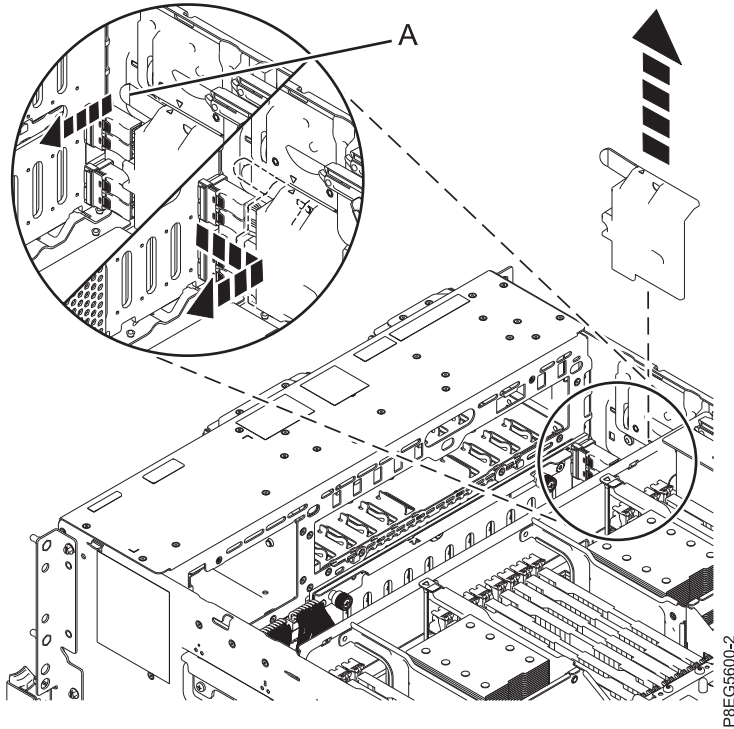

Figure 1. Removing the SAS cable cover
3. Remove the cover from the front SAS cable. Grasp the handle (A) and pull away from the side of the system, then slide the cover toward the rear to remove it as shown in Figure 1 on page 3.